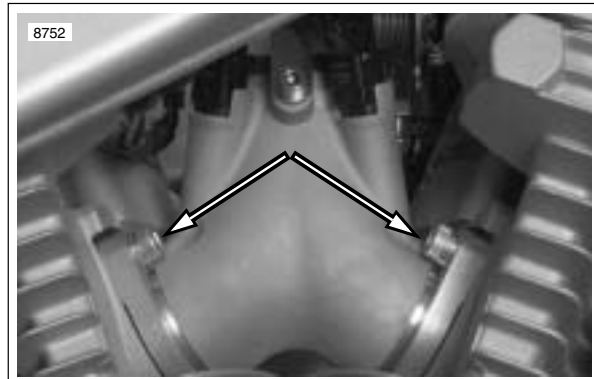

Figure 4-103. Intake Manifold Fasteners (Gearcase Cover Side)
- c. See Figure 4-103. On gearcase cover side, remove both intake flange fasteners from cylinder heads.